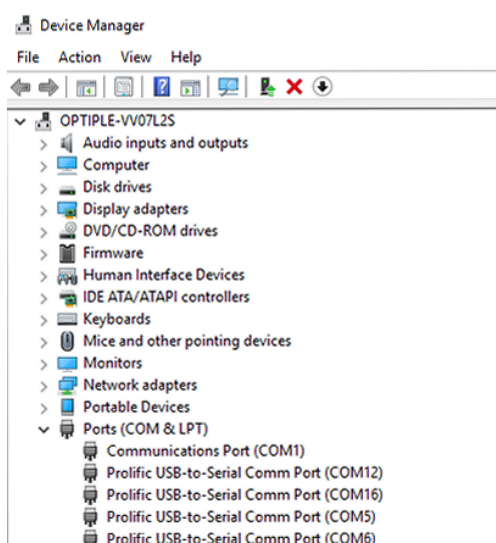

Figure 5-3. New COM port assignment for 4-port serial COM to USB converter
6. After the Windows restart, open the **Device Manager** again. To verify a correct configuration, the Device Manager must show the COM port assignments as shown in Figure 5-3 for the 4-port Serial Com to USB adapter. The Single Serial COM to USB adapter must be set to COM 7.